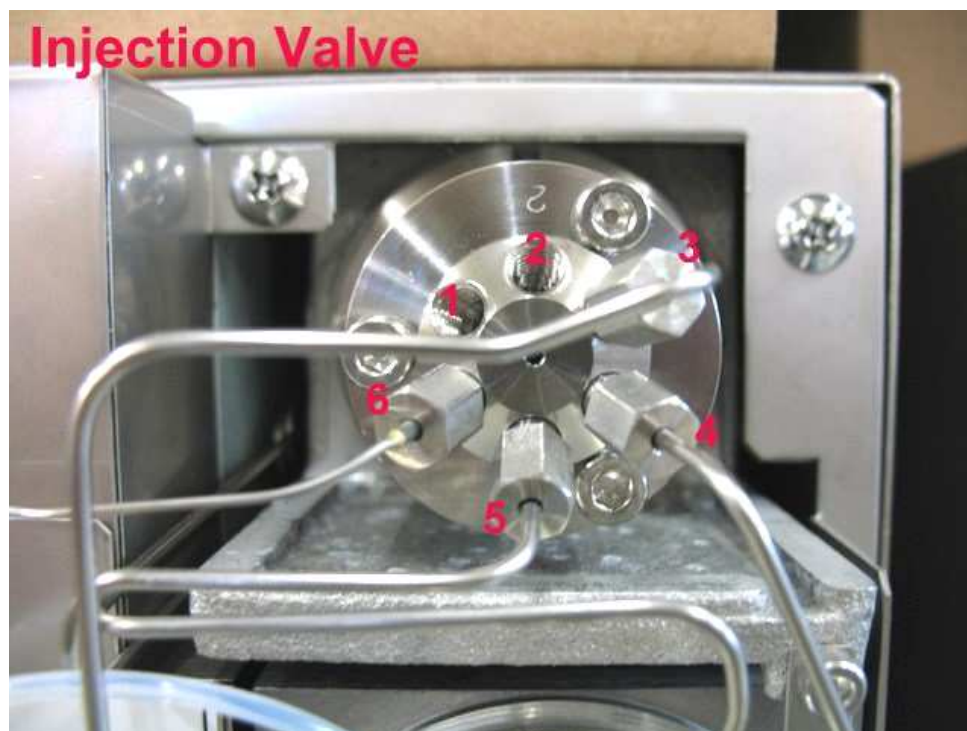

Figure 3: Injection Valve Positions on the Autosampler
4. Disconnect fitting from position numbers **3**, **5** and **6** on the injection valve (*Fig. 3*).